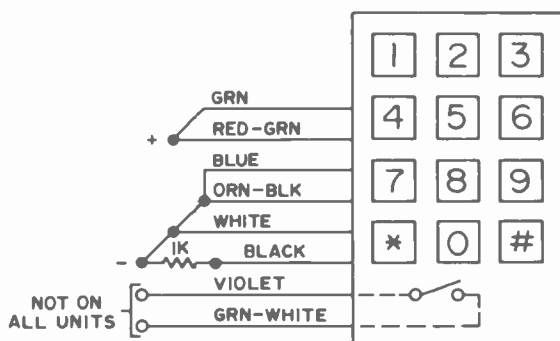

Fig. 3-11. Two-wire conversion.
It is possible to make a pad work with only two leads, plus and minus. The schematic of Fig. 3-11 shows one such connection scheme. When connected as shown, the pad will work with as little as 3V applied. The leads shown are the only ones of importance, and if your pad has other leads which are not shown on the schematic, they can be ignored. One exception would be if you have a violet lead and a green-white lead on an 11-lead pad; these are connected to an internal set of normally open contacts which close whenever any button is depressed. These leads can be used to key a push-to-talk, battery, or other line. With the hookup of Fig. 3-11, the Touchtone pad can be
*Testing Encoders.* How about testing one of these pads, now that you have it working? Well, if you happen to live in an area where the phone company offers Touchtone service (even if you don't have this service yourself), then your local phone company probably has a device available that you can use. First, hook the leads on the pad together per Fig. 3-11. Then dial up the ringback number of your phone. In many parts of the country, this number is 981- or 982- plus the last four digits of your own phone